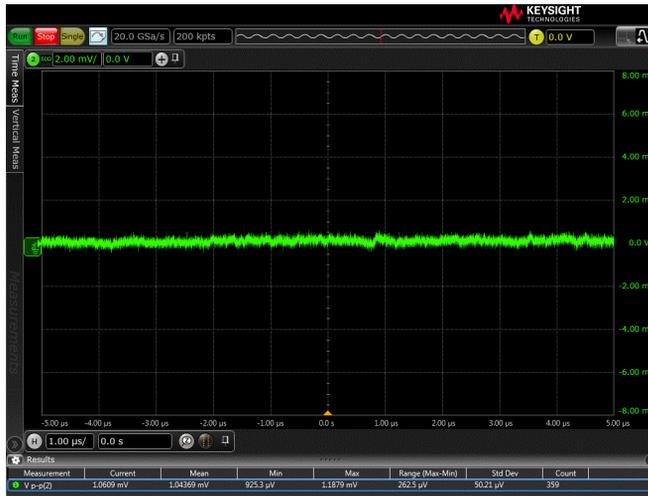
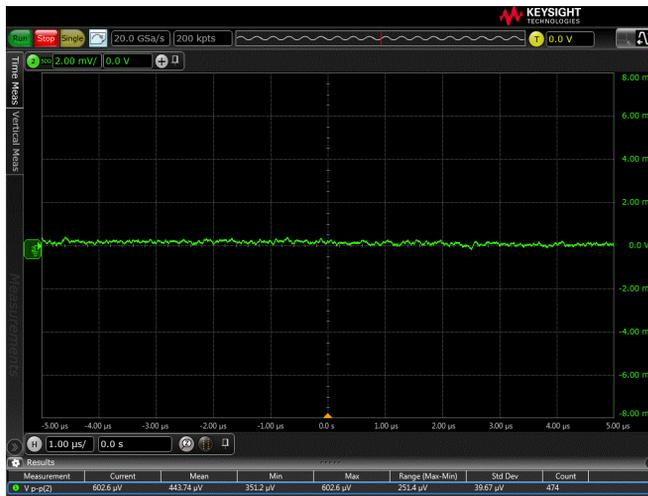

Figure 1 Example of Measured Mean Noise at 2 GHz BW: 1.04369 mV_{p-p}
Figure 2 Example of Measured Mean Noise at 20 MHz BW: 443.74 mV_{p-p}
- Low noise due to a low attenuation ratio and 50Ω output. See Figure 1 and Figure 2 on page 8.